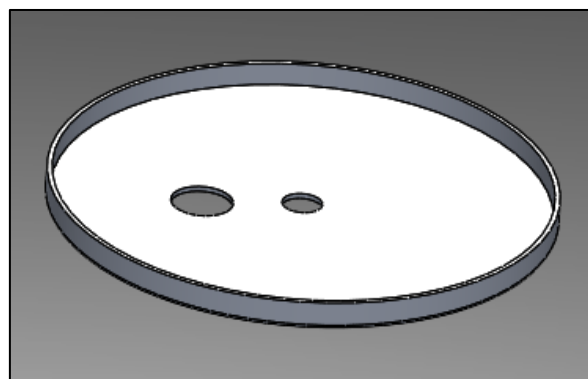

FIG. 5 - CANOPY
- a. CANOPY (as shown in FIG. 5)